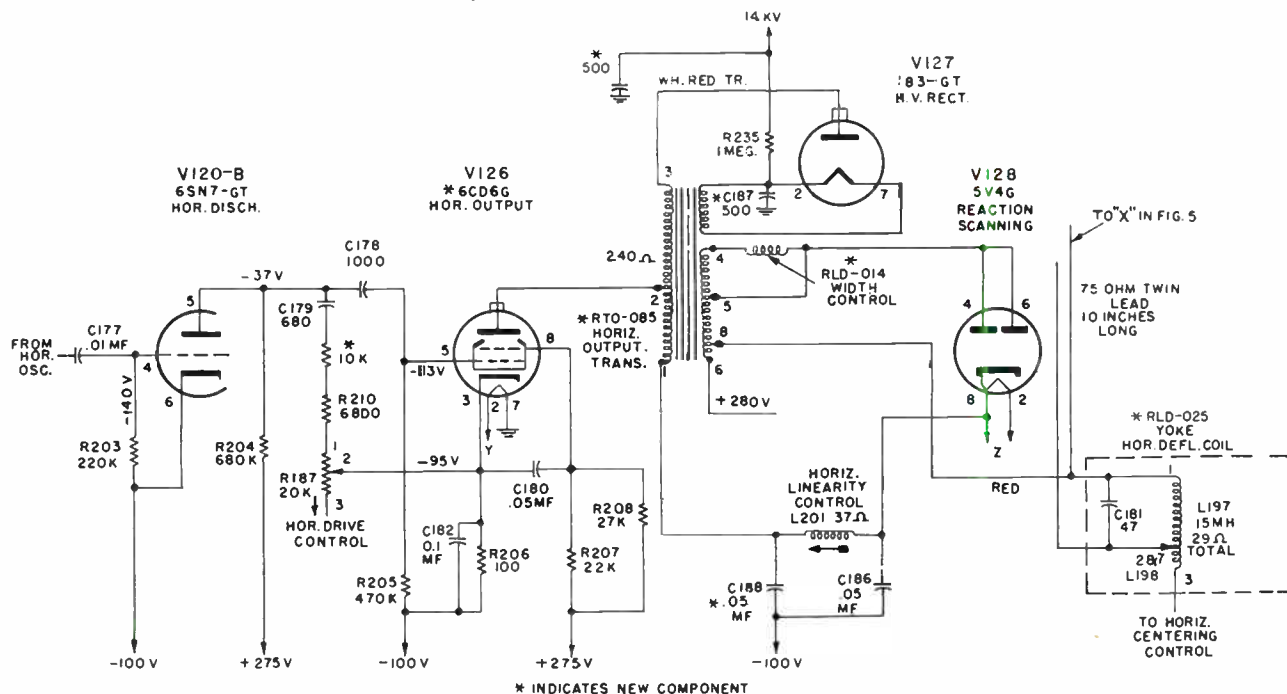
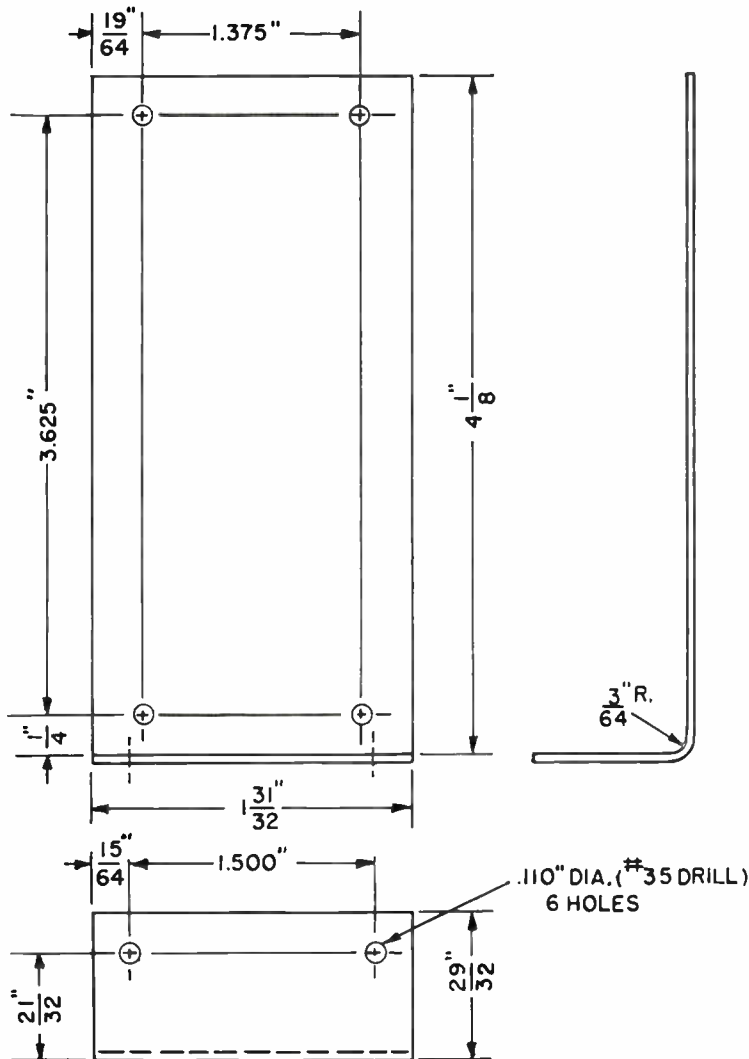
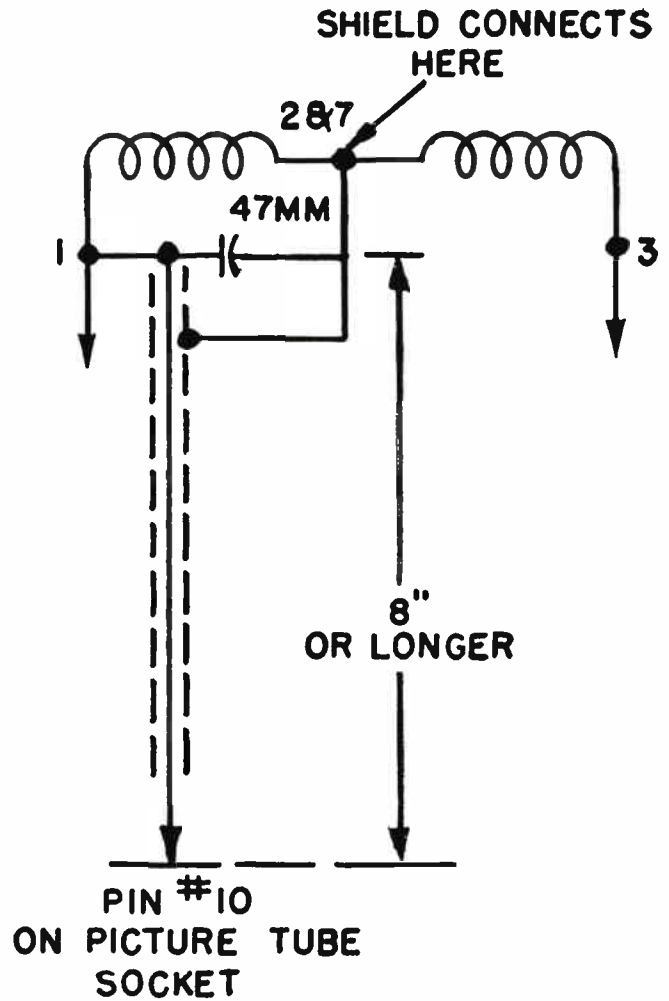

Figure 2. Horizontal output and HV section of RCA 630TS showing the changes made to use a General Electric 20CP4 picture tube.
Figure 3. Dimensions of bracket used to mount General Electric RTO-085 horizontal sweep transformer to side of HV compartment.
Figure 4. Horizontal retrace elimination circuit used when insulated shielded cable is used in place of 75 ohm twin lead.
4. The original horizontal sweep transformer was removed and replaced with a General Electric RTO-085 and connected as shown in Figure 2. This was mounted to the side of the HV cage with an angle bracket bent and drilled as shown in Figure 3. If you do not have suitable material available to make this angle, the transformer can be mounted to the chassis with ordinary machine screws. If this method of mounting is used new holes will have to be drilled in both the transformer and the chassis. The 1B3-GT filament dropping resistor R233 was removed. A resistance check should be made of R235 in the HV lead, and if the resistance is off more than ten percent, it should be replaced.
5. The 500 mmfd capacitor was replaced with one having a 20 KV rating, and a second 500 mmfd 20 KV capacitor was connected between the chassis and the output end of R235 as shown in Figure 2. If a 20CP4-A or one of the twenty-one inch tubes having an external conductive coating is used, the second 500 mmfd filter capacitor can be omitted since this conductive coating acts as a filter capacitor when grounded.
7. The original width coil was removed and replaced with a General Electric RLD-014 which was connected as shown in Figure 2. This was mounted in an enlarged hole on the original mounting bracket.
11. A ten-inch piece of 75-ohm twin-lead was connected across capacitor C181 as shown in Figure 2. This capacitor is across a portion of the horizontal coils in the deflection yoke. If 75-ohm twin-lead is not available a piece of outside insulated shielded wire can be used. This type wire should be connected as shown in Figure 4. Be sure that the wire which originally supplied 275V to pin 10 on the picture tube is removed from the 275V source as described above in step No. 2.